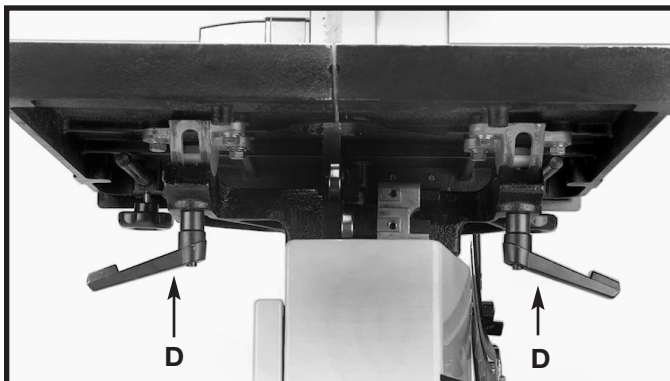

Fig. 7
5. Thread the trunnion lock knob (D) Fig. 7 onto the table stud. Repeat this process for the other table stud.